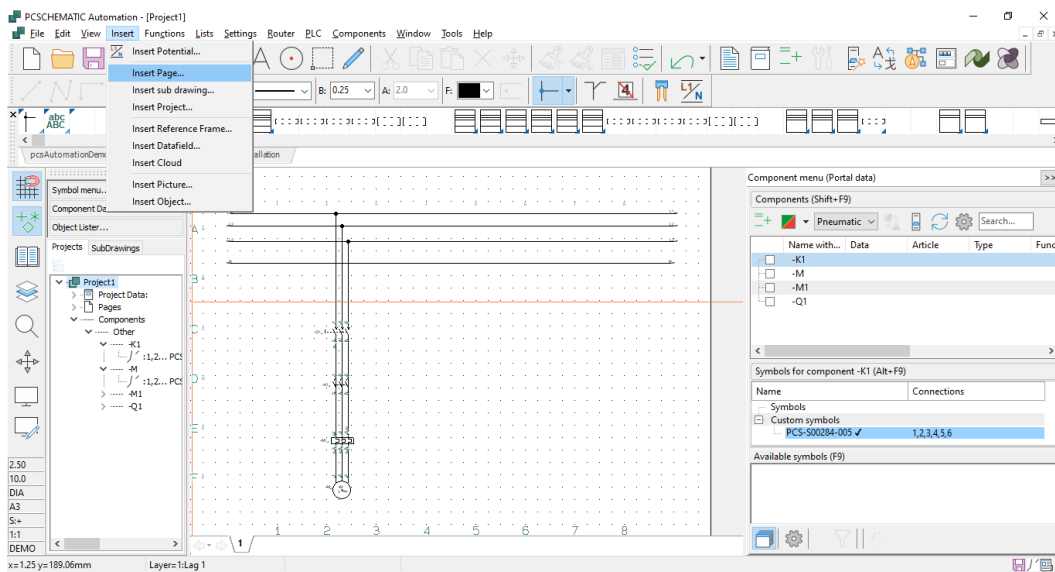

Figure 6.39 – Inserting a page
7. Click on **Insert** and click **Insert Page** as shown in *Figure 6.39*: